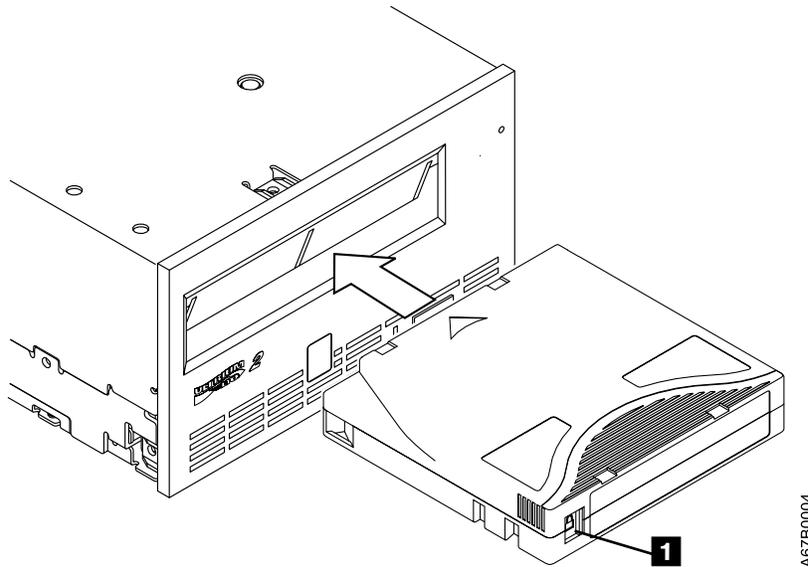

Figure A-3. Inserting a Cartridge into the Ultrium Tape Drive
3. Grasp the cartridge so that the write-protect switch faces you (see **1** in Figure A-3).
| Clean the drive head whenever **C** displays on the single-character display and the status light flashes amber. To clean the head, insert the cleaning cartridge into the tape load compartment (see Figure A-3 on page A-17). The drive performs the cleaning automatically. When the cleaning is finished, the drive ejects the cartridge. The cleaning cartridges are generally valid for 50 uses.